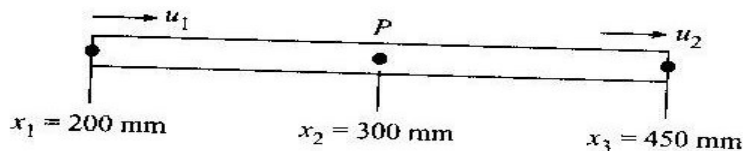

Figure. 2
- (b) The bar element is shown in Figure 2. is to have an axial displacement field u that is linear in x and depends on nodal degrees of freedom u_1, u_2 . CO2- App (16)